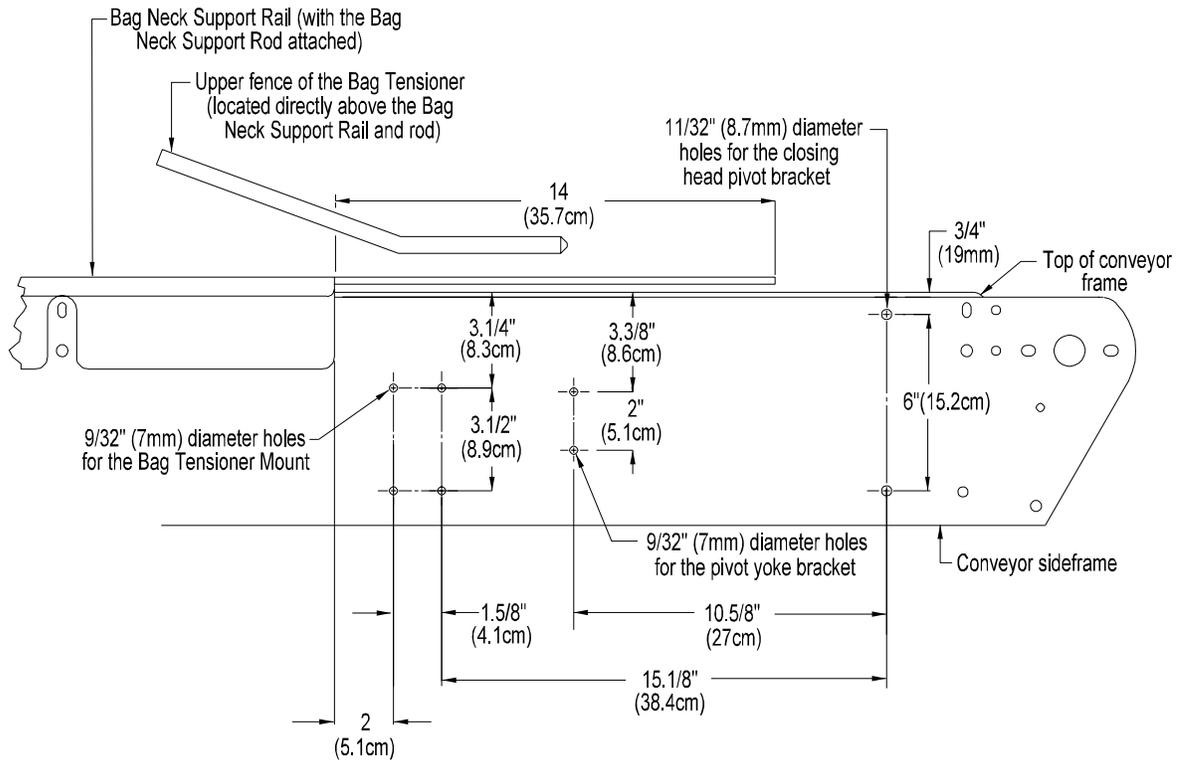

Figure 2.1
A. INSTALL BAG TENSIONER MOUNT: Figure 2.1
The closing head and the bag tensiometer must be mounted correctly in order to maximize closing efficiency. Refer to figure 2.1 for locating and drilling the required mounting holes.
When mounting a bag tensiometer on another manufacturer's conveyor, refer to figure 2.1 for proper mounting locations. A bag tensiometer mount and mounting hardware is provided when mounting on another manufacturer's conveyor.
1. After attaching the tensioner mount, set the bag tensioner in the mount as shown (Figure 2.1). The two mounting shafts slide into the mounting slots.